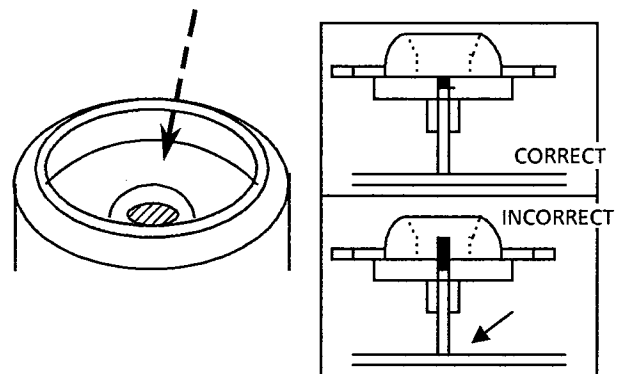

Fig 9
4. After inserting the turntable, bond the motor shaft and turntable together (at the section marked by an arrow in fig 9 on the left below).
5. Use "LOKTITE" #460 bonding agent, and apply as little as possible. Take care not to allow any excess bonding agent to get onto the turntable. Be extremely careful not to allow bonding agent to adhere to the motor bearings (the section marked by an allow in fig 9 on the right).